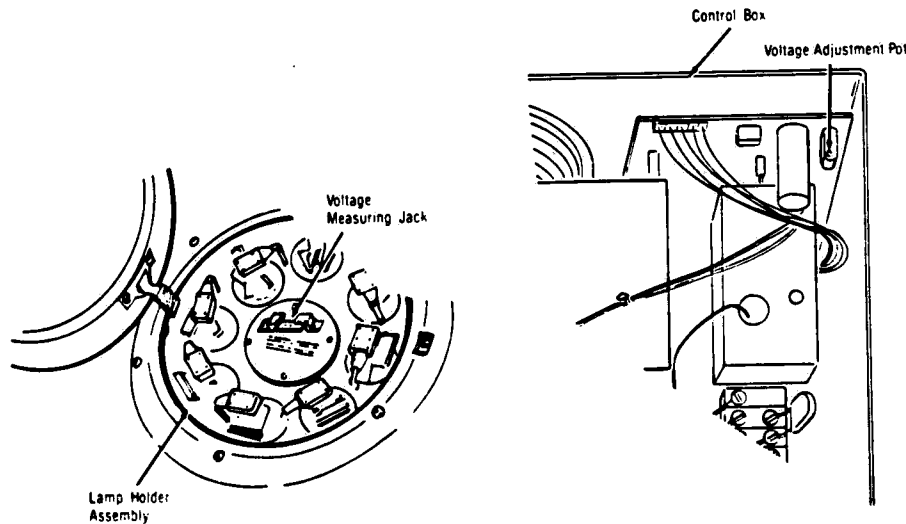

Figure 3-8. CHECKING/SETTING OUTPUT VOLTAGE.
3.3.11 Checking/Setting 25 Amp Variable Intensity Control Output Voltage (See Figure 3-8)